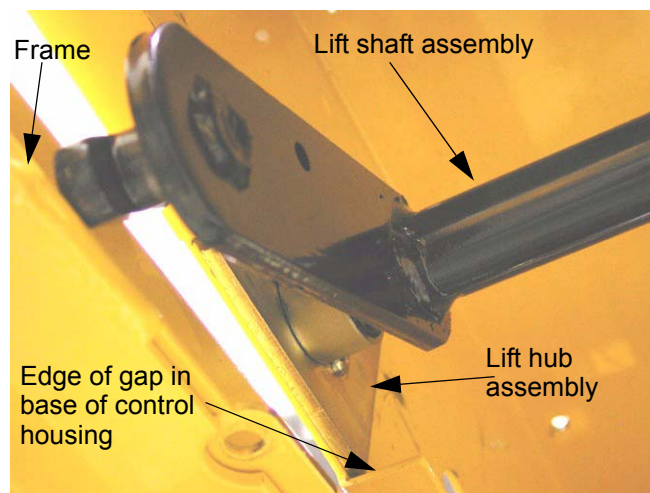

Figure 11.29
11.29. Lower the lift shaft assembly and both lift hub assemblies through the gaps in the bottom lip of the control housing. See Figure 11.29.